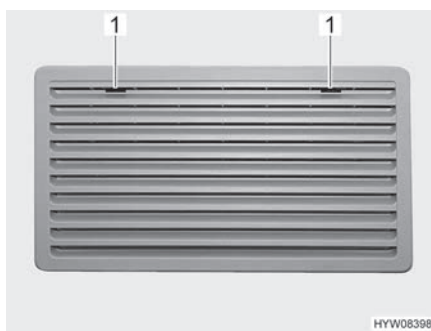
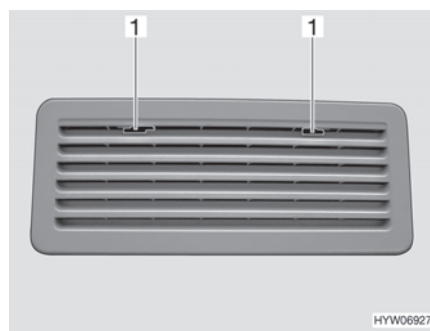

Fig. 134 Refrigerator ventilation grill (Theford large)
Fig. 135 Refrigerator ventilation grill (Theford small)
- Move the locking device (Fig. 134,1 or Fig. 135,1) to the middle.